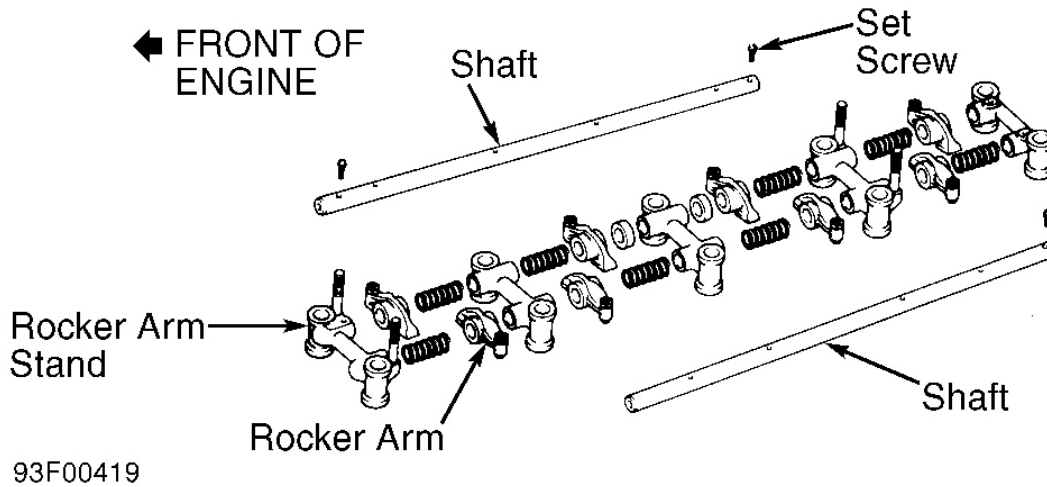

Fig. 8: Exploded View Of Rocker Arm Assembly
2. To reassemble, reverse disassembly procedure. Note that rocker arms are identical, but rocker arm stands are different and must be installed in correct location. See **Fig. 8**.